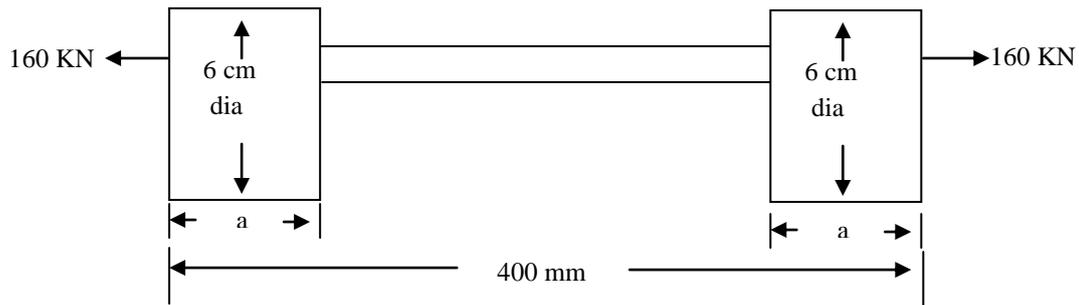

Fig.Q.11(a)
8) The bar shown in fig. Q.11(a) is subjected to a tensed load of 100 KN of the stress in middle portion is limited to 150 N/mm^2 . Determine the diameter of the middle portion. Find also the length of the middle portion if the total elongation of the bar is to be 0.2 mm young modules is $2.1 \times 10^5 \text{ N/mm}^2$